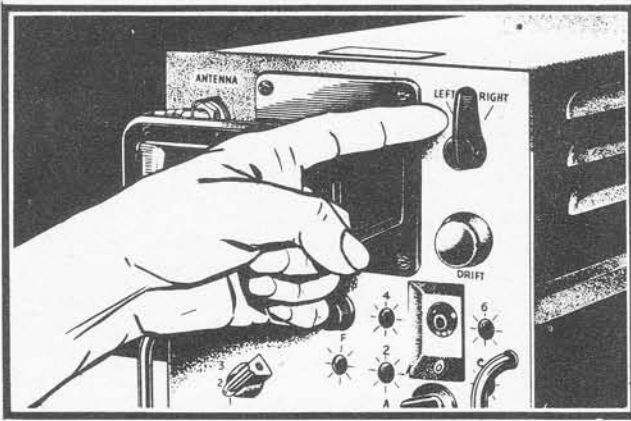

Figure 3-14
(2) TIMING OF RECEIVER - INDICATOR. — Figures 3-14 to 3-24 are for receiver-indicator operation, timing of receiver-indicator.